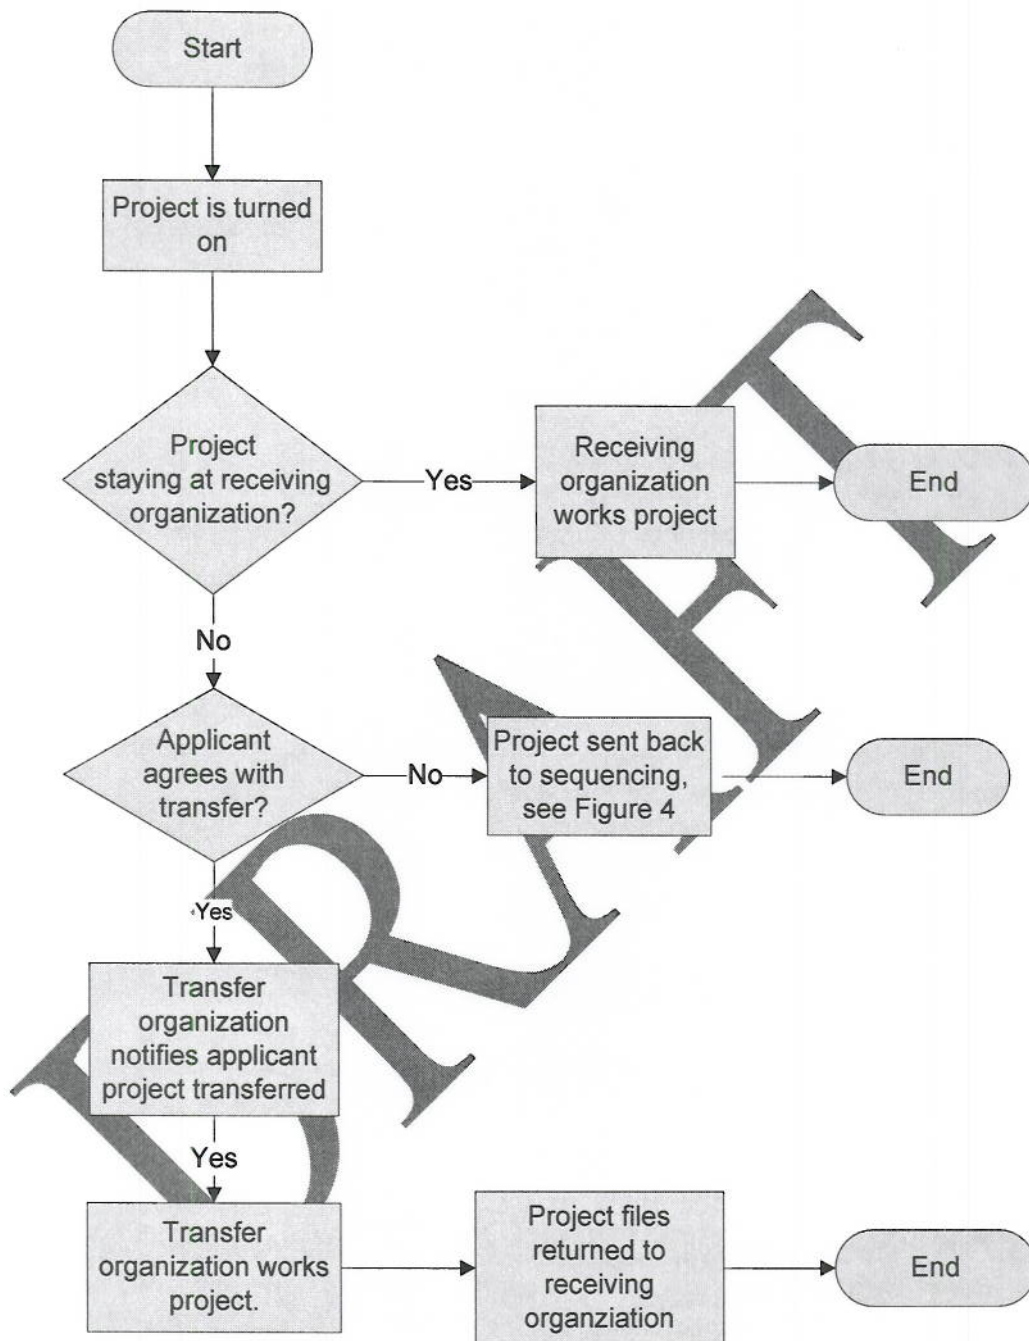

Figure 5 Project Exits Sequencing
- (1) See Figure 5 for the steps that occur after a project is turned on.
- (2) If the project is not being transferred, the receiving organization is notified by the Directorate representative that the project has been turned on. The receiving organization notifies the applicant by sending a commencement letter, see Appendix 7, and works the project.
- (3) If the project is to be transferred to another organization, the receiving organization notifies the applicant to inform them of the project transfer.
- (4) If the applicant, due to undo burden, intends to stay with the receiving organization, the applicant shall notify the receiving organization in writing and provide justification of undo burden.
- (5) The receiving organization notifies the transfer organization of applicant's intent to stay. The project then goes back into the sequencing process.
- (6) If the applicant agrees to the transfer of project, the transfer organization generates a new project number and sends a commencement letter, See Appendix 7. The transfer organization then works the project.
- (7) If the project was transferred from another organization, the transfer organization working the project will return the package to the receiving organization upon completion for all Continued Operational Safety (COS) responsibilities and oversight.